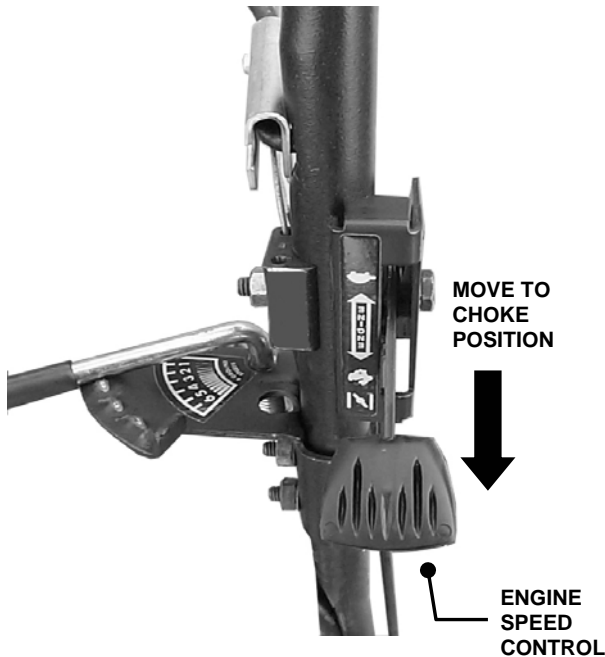

FIGURE 2.6
2. Move engine speed control to the "Choke" position. See Figure 2.6.